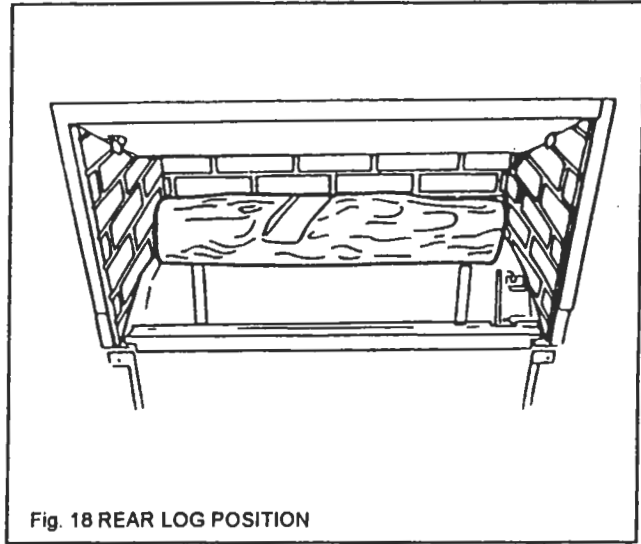

Fig. 18 REAR LOG POSITION
6.3. Place the rear log in the retaining cradle behind the rear burner rail (fig. 18).